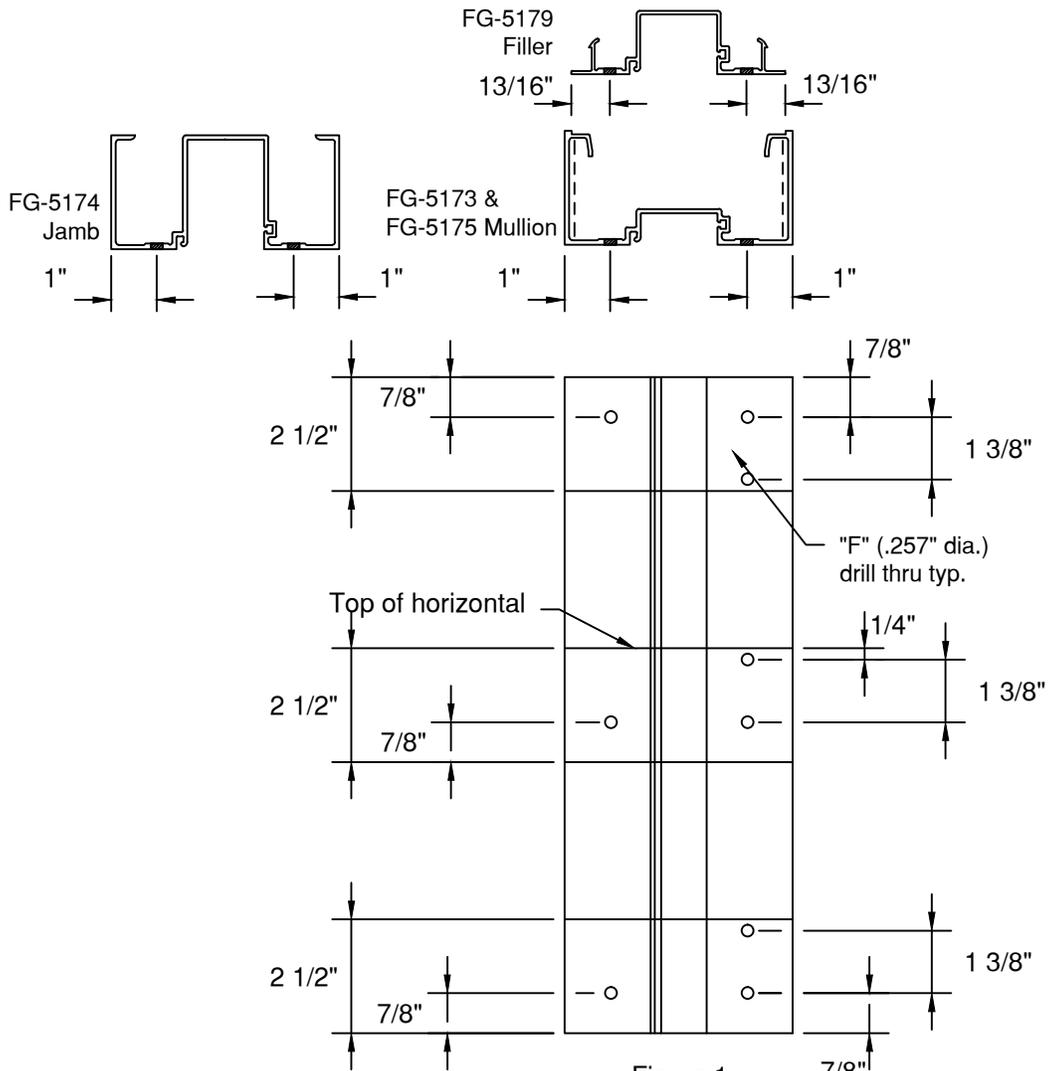

Figure 1
NOTE : refer to 1.3 and Figure 1 for hole pattern at head,sill and horizontals.
- 2.2.3 Attach horizontals to verticals using (3)FS-8 (#14 x 1" sts spline screws) Trim excess sealant tape at joints with razor knife. **DO NOT PULL TAPE TO TRIM. See Figure 1 Page 6** for hole prep locations.